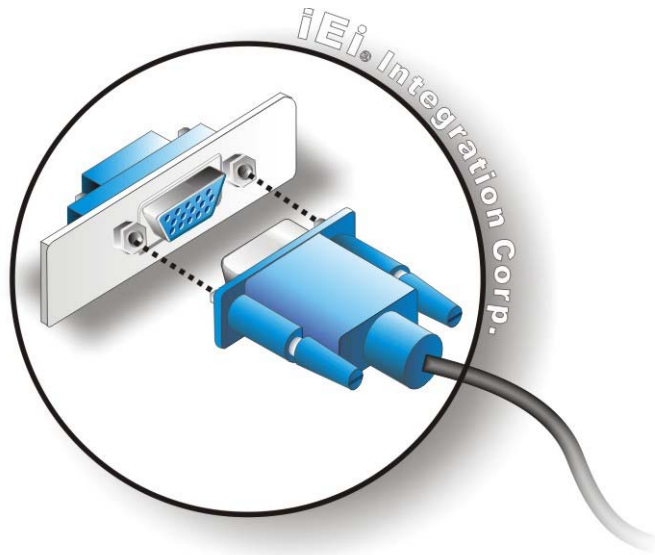

Figure 4-20: VGA Connector
- Step 3:** **Insert the VGA connector** Once the connectors are properly aligned with the insert the male connector from the VGA screen into the female connector on the IMBA-C2060. See **Figure 4-20**.